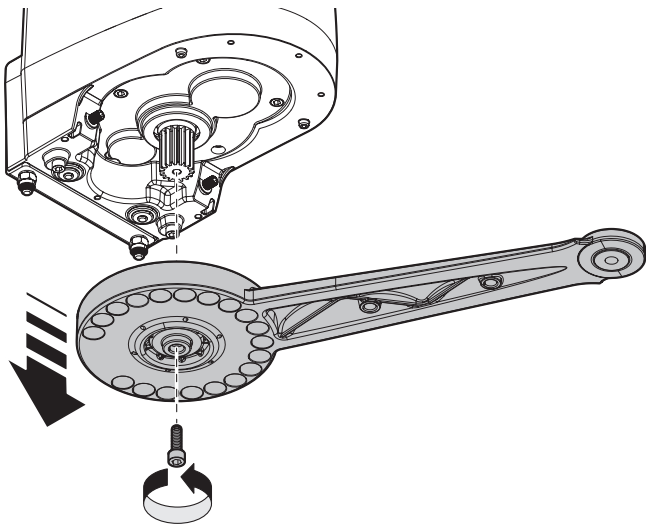

Fig. 14
03. Unscrew the screw in the motor arm and remove it as shown in **Fig. 14**;